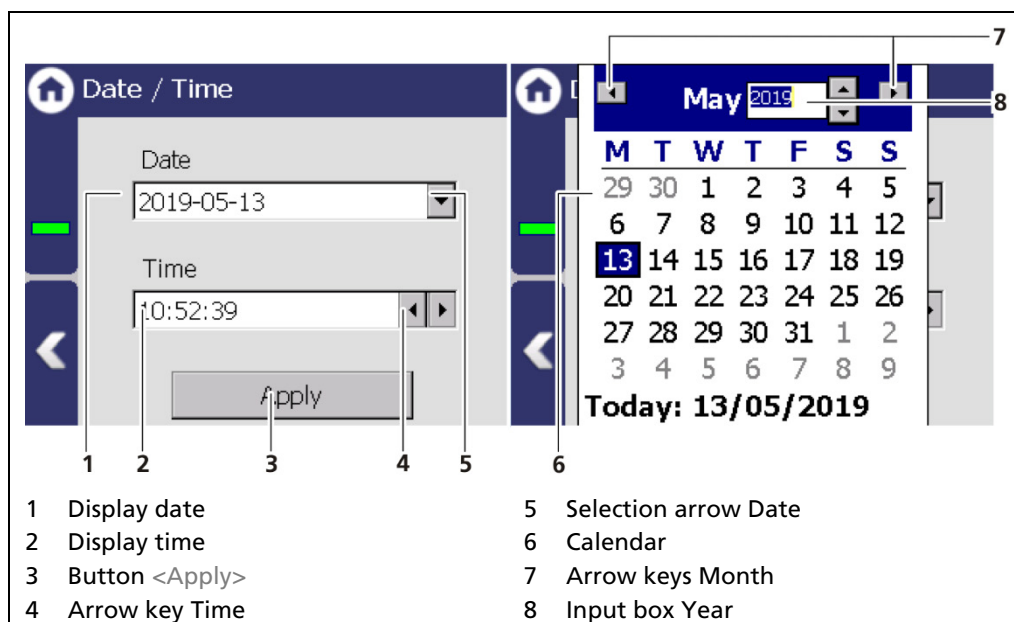

Fig. 40 Date / Time, calendar
1. Click on the arrow key (Fig. 40, item 5) in order to set the date.
- The calendar is opened (Fig. 40, item 6).
2. Click on the year number (Fig. 40, item 8) in order to enter the year.
3. Set the month (Fig. 40, item 7) by clicking on the arrow keys.
5. Change the time by clicking on the arrow keys (Fig. 40, item 4).
6. Click on <Apply> (Fig. 40, item 3), to accept the date and time settings.